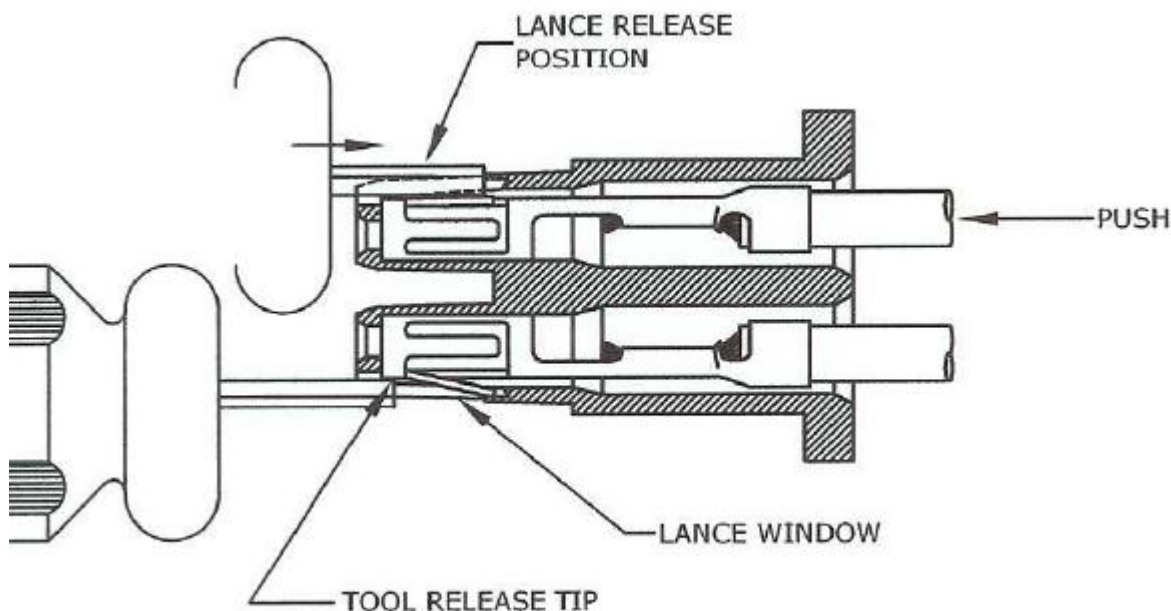

FIGURE 2
The CC79 Mini Mate® contact has a retaining lance that can be released through an access window located on the outside of the housing as shown in **Figure 2**. The Extraction tool has a tip that is inserted into the window to depress the lance the correct amount for contact removal.
2. Engage the tip of the Extraction Tool in the lance window as shown in **Figure 2**. With downward pressure, push the tool toward the back of the window to release the lance.